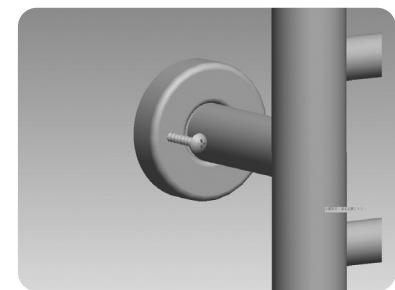

Figure 2
- Screw each fixing point to the wall (see *Figure 2*).